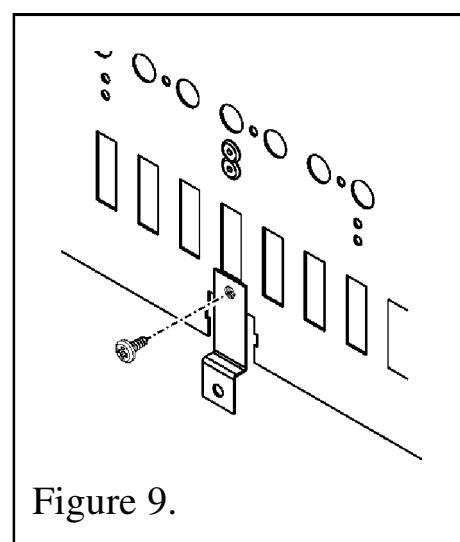

Figure 9.
2. If the heater is to be fixed in an elevated position (i.e. above hearth or finished floor height) then secure the lower support bracket to the rear bottom of the heater (See figure 9).